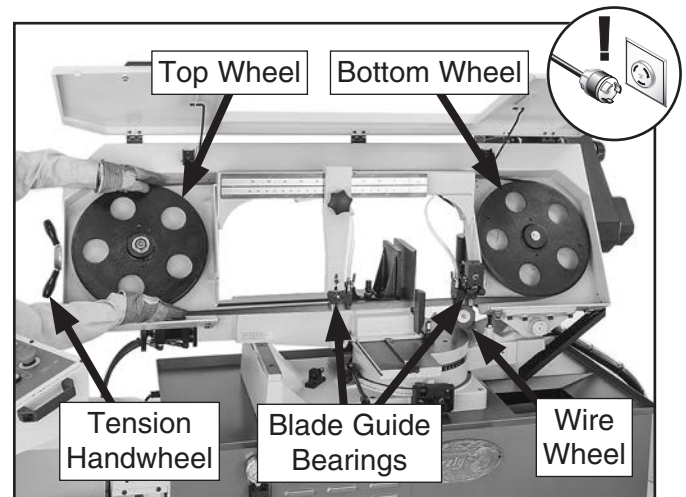

Figure 27. Installing new blade.
5. Remove guards on both blade guides, and remove wire wheel on right guard (see **Figure 27**).
6. Loosen blade tension handwheel (see **Figure 27**), and slip blade off of wheels.
7. With help of an assistant, install new blade through both blade guide bearings shown in **Figure 27**, then around wheels.